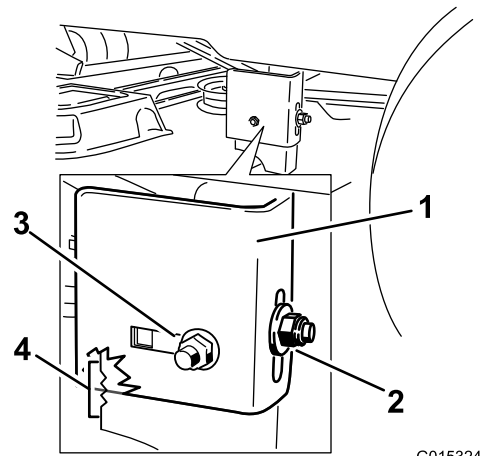
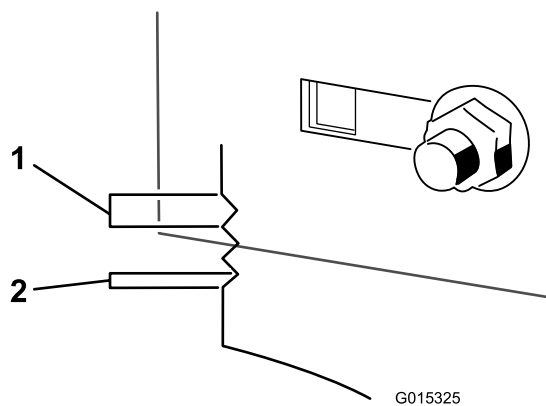

Figure 58
Figure 59
- Loosen the rear locking nut on the hanger bracket (Figure 58).
- Loosen the side locking nut on the hanger bracket just enough to allow the hanger to be adjusted (Figure 58). Use the notches on the welded bracket to measure the amount of adjustment. Each notch surface is equivalent to 0.25 inch, while a single side is 0.125 inch (Figure 59). Adjust the height of the mower deck to the desired height.
11. Stop the deck at the adjusted position and tighten the side locking nut on the hanger bracket to hold the new position (Figure 58). Tighten the rear locking nut on the hanger bracket.